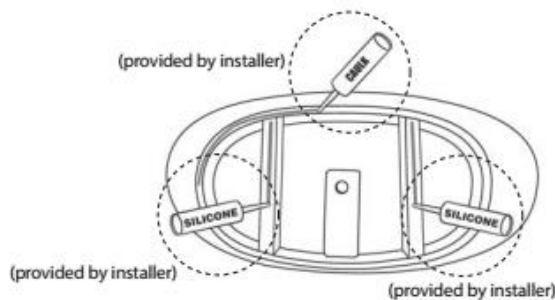

figure 12
16. Apply a generous bead of adhesive or silicone to the bottom of the tub supports (figure 12).
17. Then apply a bead of tub and tile caulk around the edge of the base (figure 12).